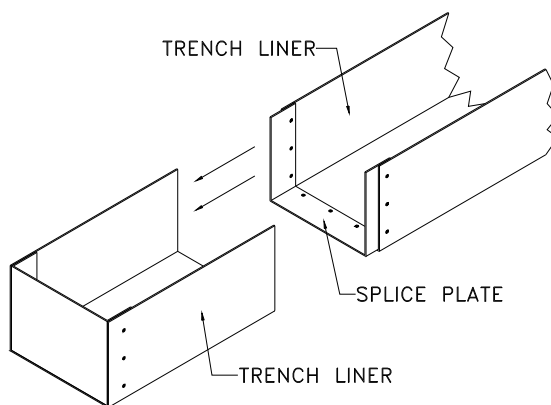

Figure 12
**STEP 5.** Slide the free end of the attached splice plate into the receiving end in the mating section of the trench liner (see Figure 12). Ensure that the mating sections of the trench liner are level, the proper width, and properly aligned. Ensure that the mating sections of the liner abut as closely as possible with one another.